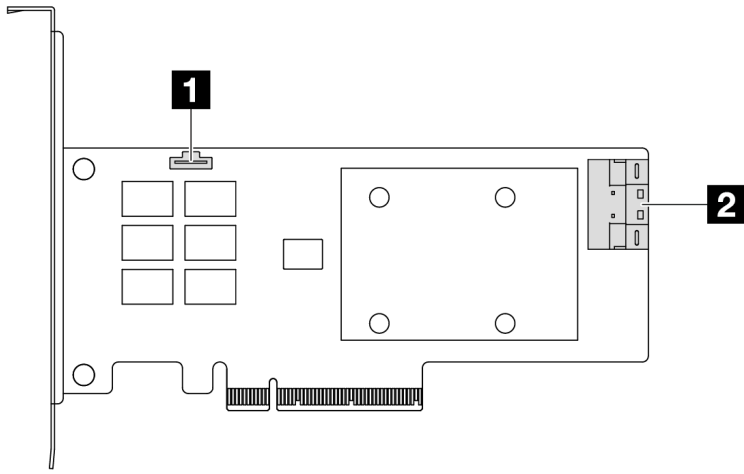

Figure 318. A Gen 4 8i SFF RAID/HBA adapter (one port connector)
- Figure 318 “A Gen 4 8i SFF RAID adapter (one port connector)” on page 342